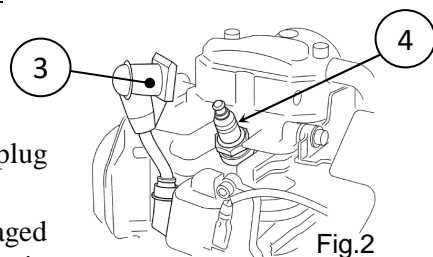
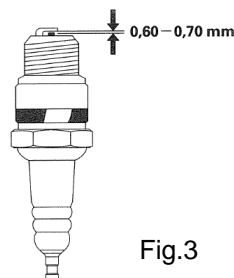

Fig.2
Fig.3
- ① Disconnect the plug cap ③ and remove all dirt from around the plug ④ (see Fig.2).
- ② Remove the plug ④ using a 5/8" plug spanner.
- ③ Check the plug. Replace it if it is damaged or very fouled, if the sealing washer is in poor condition or if the electrode is worn.
- ④ Measure the electrode gap (see Fig. 3). Correct it if necessary by bending the side electrode. The electrode gap should be 0.6 to 0.7 mm.
- ① Screw in the plug.
- ② Push on the plug cap firmly (see Fig. 2).